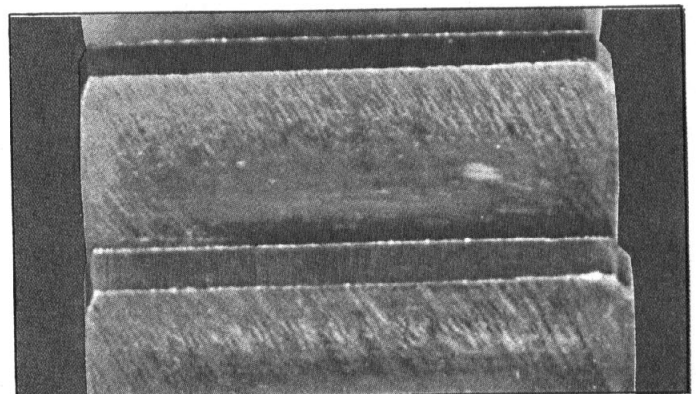

Figure 8. Lipping
3. **Lipping** — Lipping or shaving burrs, is the formation of "lips" at the tip of the gear teeth during machining, Figure 8. These "lips" will do no harm to the gear.